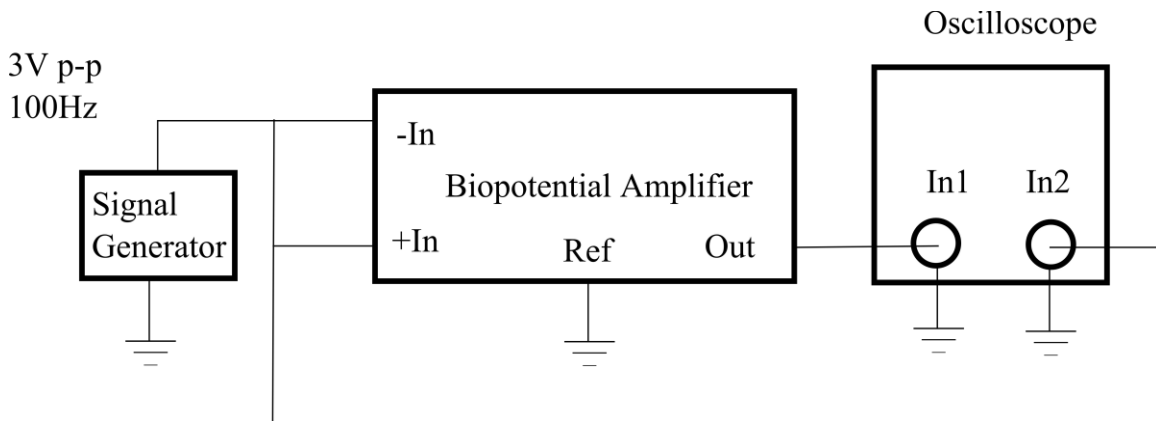

Figure 3: Schematic for measuring common mode gain
1. Connect the equipment as shown in Figure 3.
2. Set the input as shown in Figure 3. (100Hz, 3Vpp). This will be your common mode voltage.